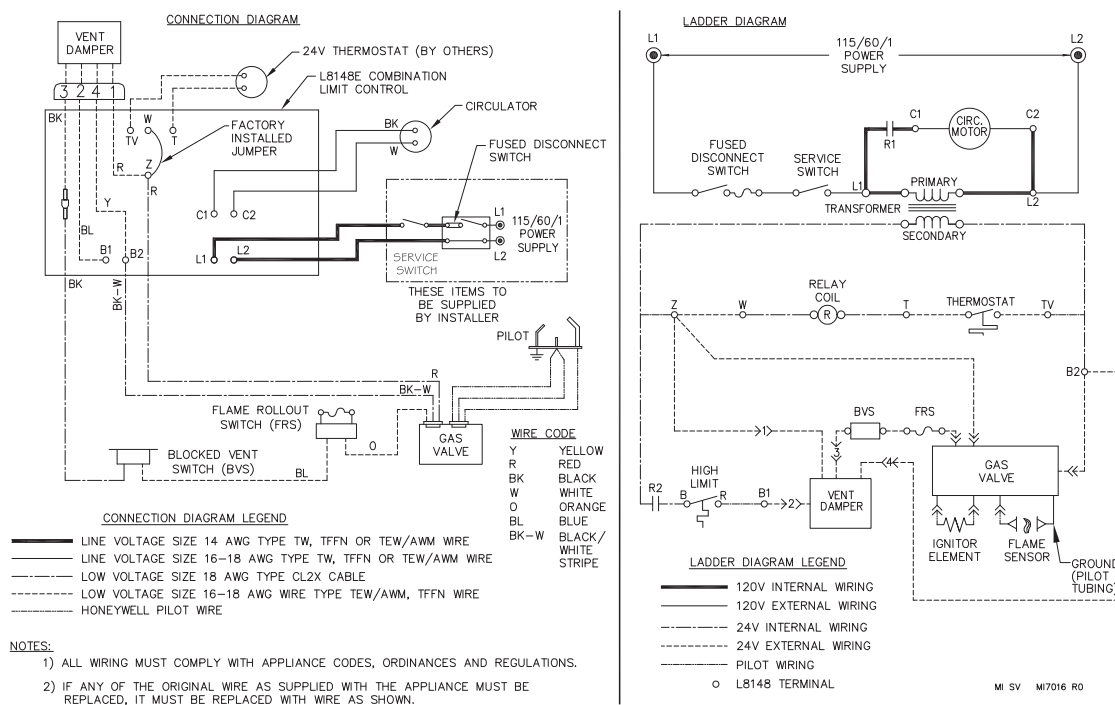

Figure 6.3: Wiring and Connection Diagram – Intermittent Ignition
2. Intermittent Ignition (see Figure 6.3 above)